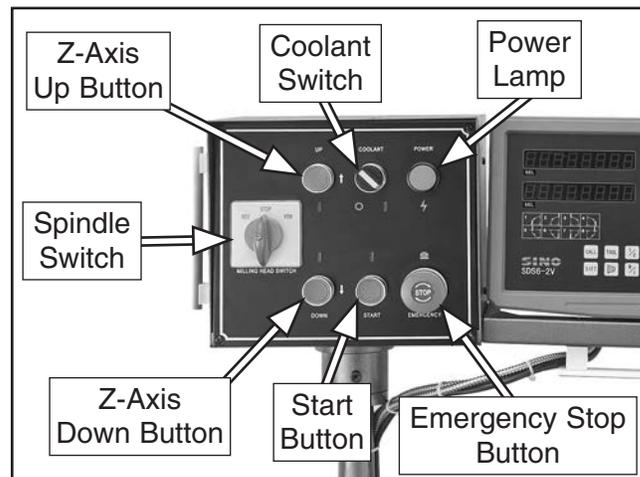

Figure 18. Control panel components.
6. Turn MASTER POWER SWITCH (located on the electrical cabinet door) **ON** to enable power to the control panel—POWER LAMP should illuminate (see **Figure 18**).